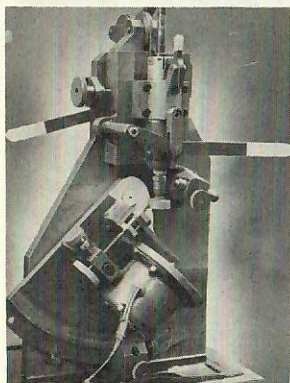

FIG. 83-1
6. By frequent inspection of the arbor, it is possible to detect any grooving action on its cone tip. If grooves form, they must be removed by dressing the arbor on the valve grinder, Fig. 83-1.